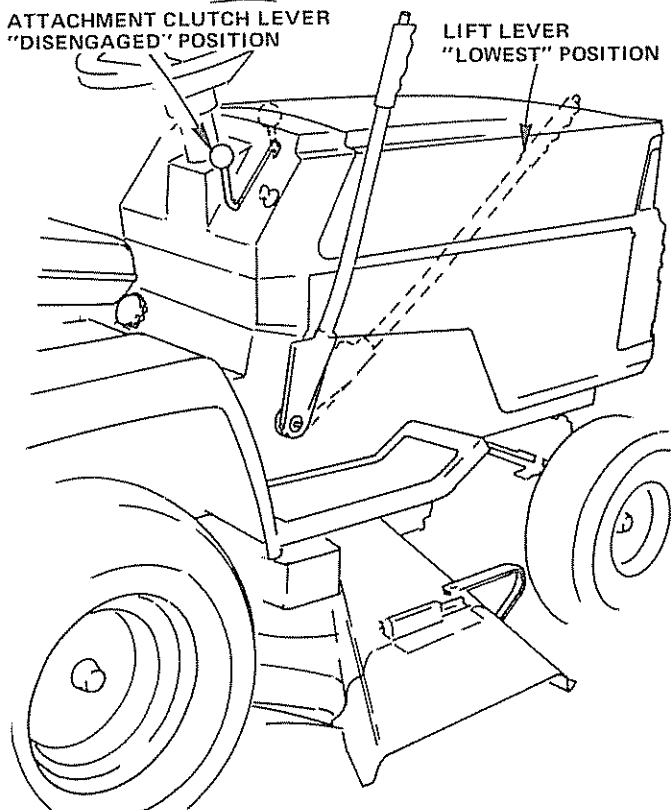

FIGURE 25
1. Place Attachment Clutch Lever in "DISENGAGED" position (Fig. 25).
2. Turn Depth Adjustment Knob to lowest position. Move Mower Lift Lever (Fig. 25) forward to lower Mower to its lowest position.